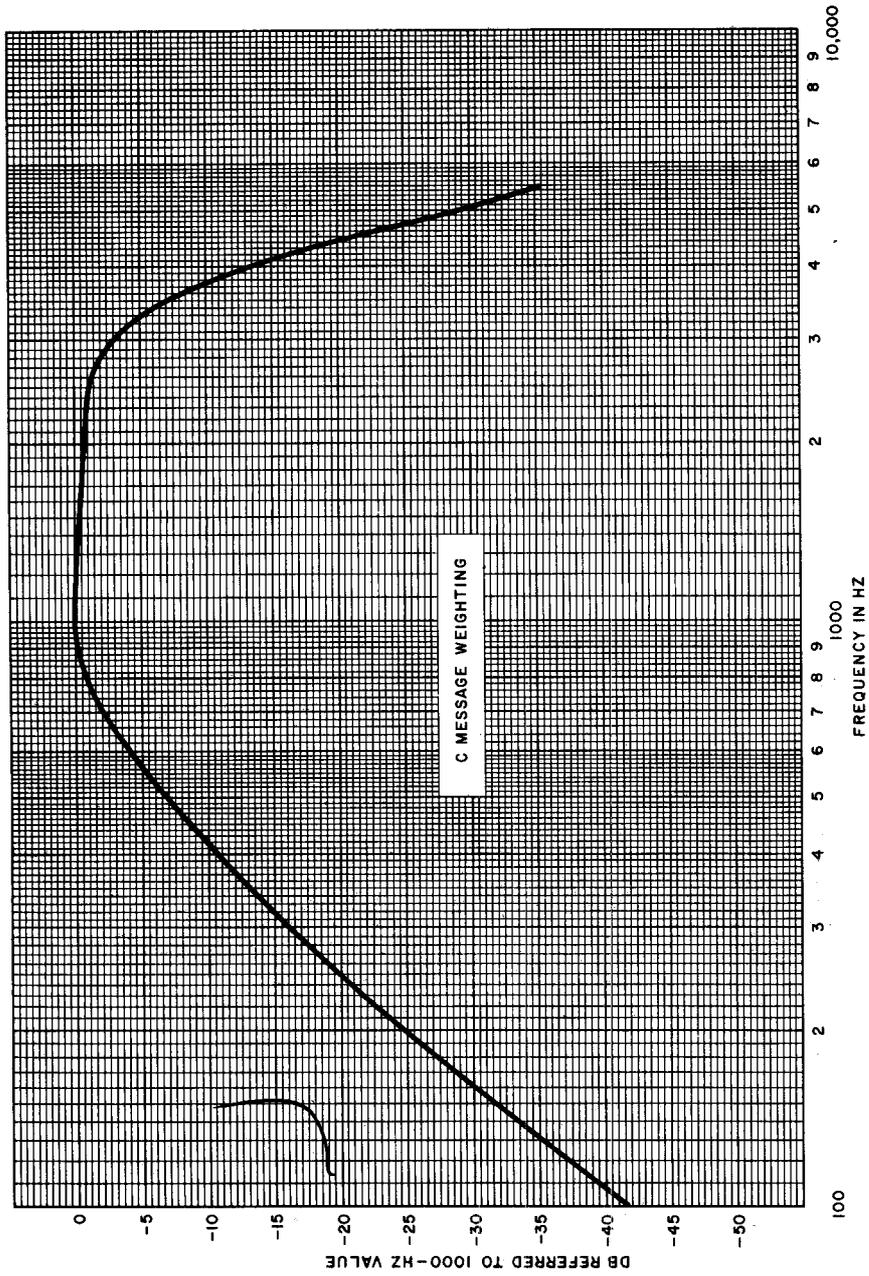

Fig. 4—C-Message Characteristic Curve
3.01 The C-message weighting characteristic, is shown in Fig. 4. This weighting is used for the measurement of noise on circuits where C-message weighting is specified. The shape of the C-message characteristic was determined by subjective tests on the relative interfering effects of single frequencies, as heard over a 500-type telephone set. It may also be used for the measurement of noise with respect to the 300-type telephone set. The C-message weighting (C MESSAGE) network, associated with this characteristic, is part of the plug-in 497A network package.